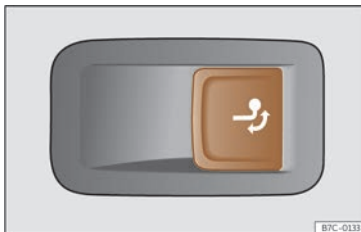

Fig. 172 Right side of the luggage compartment: button to unlock the tow hitch.
- Pull the >>> Fig. 172 button briefly. The tow hook unlocks electrically and automatically turns outwards. The button's control lamp flashes.
- Pull the >>> Fig. 172 button briefly. The tow hook unlocks electrically.
- Never press the button >>> Fig. 172 when there is a trailer hooked to the vehicle or when a carrier system or other accessories are mounted on the tow hook.